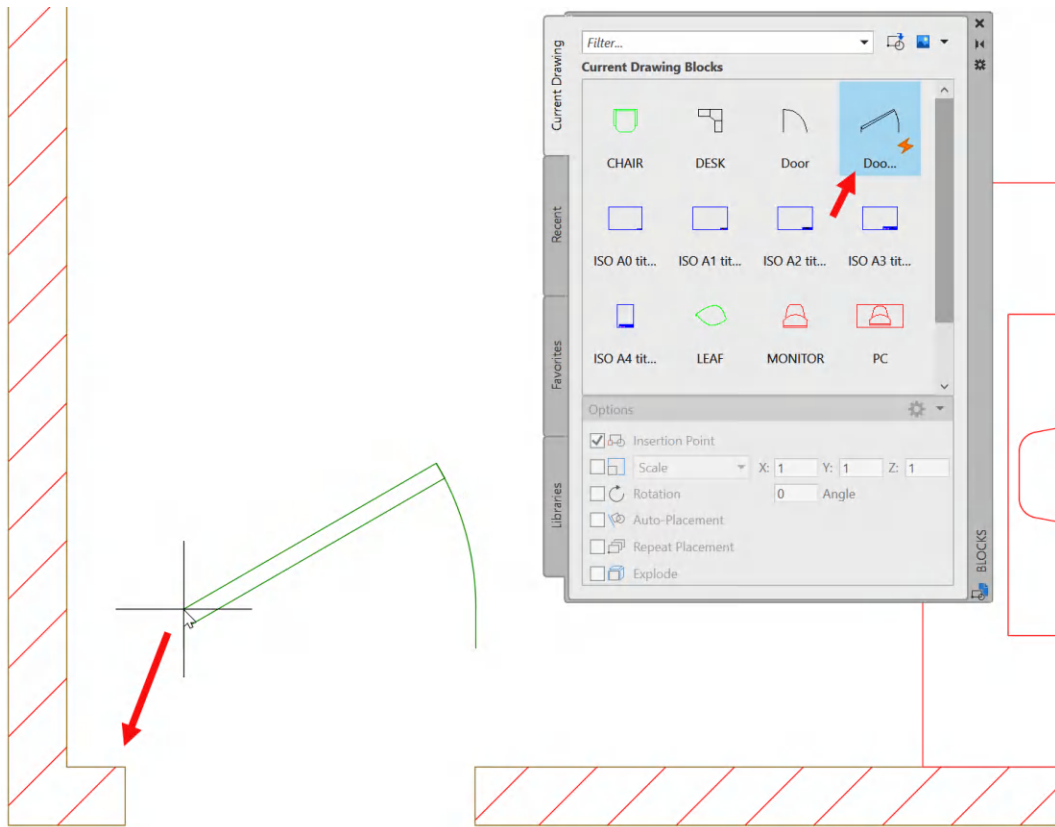

Figure 9.9: Placing the Door – Metric dynamic block
3. If you click on the **Door – Metric** block in the **Blocks** palette, you will see it appear on your cursor, like a regular block, and the placement method is the same. Place the block on the wall corner as you did previously, using the **Endpoint** object snap, as indicated in *Figure 9.9*.